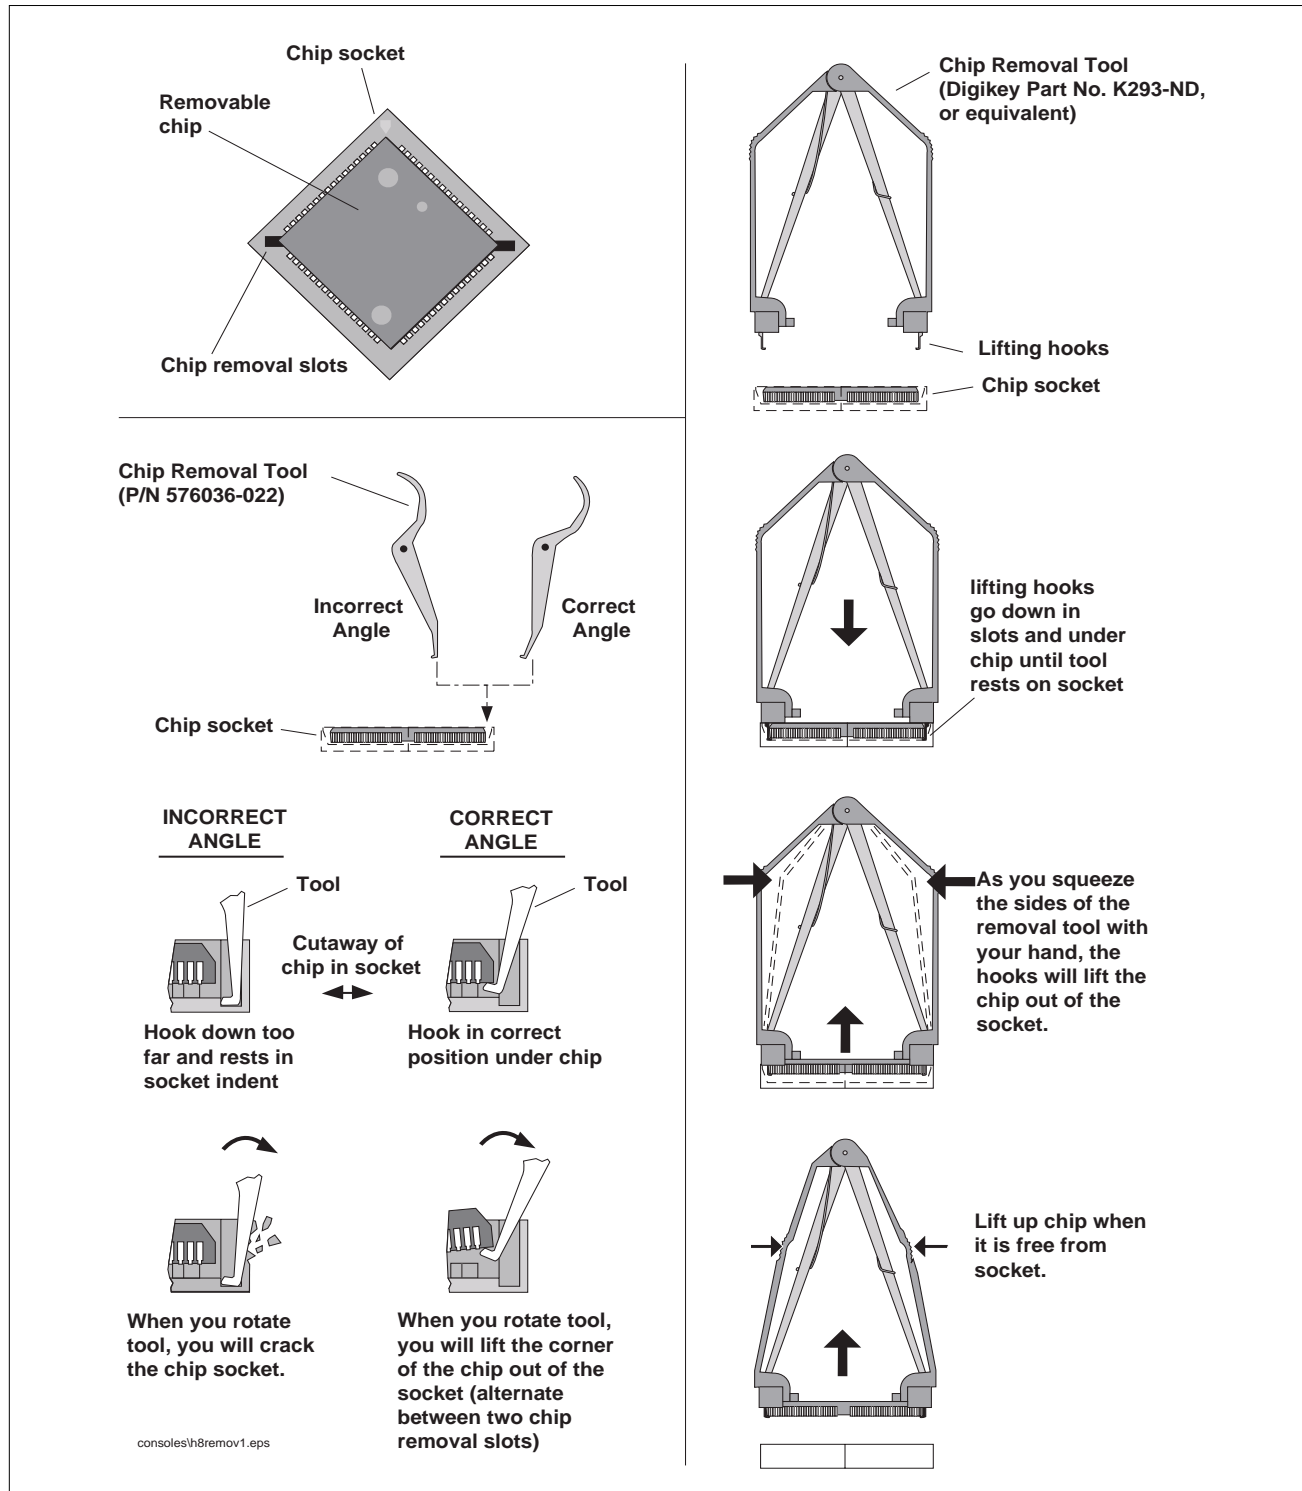

Figure 25. Removing PROM Chip
6. Remove the PROM chip following instructions in Figure 25.